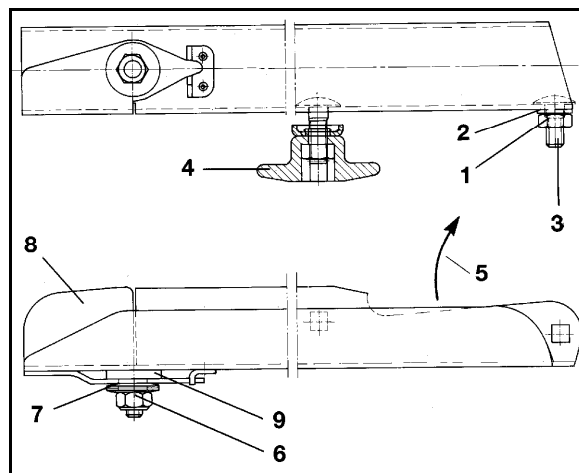

Fig. 81
It is essential to ensure that the spreading vanes are installed correctly! The open side of the U-shaped spreading vane must be facing the direction of rotation (Fig. 81/5).
1. Release and remove the fixing bolt (Fig. 81/3).
2. Release and remove the quick-release screw connection (Fig. 81/4).
4. Replace the used self-locking nuts (Fig. 81/1) of the fixing bolts with new ones.
5. Secure each spreading vane with a fixing bolt, washer and an unused self-locking nut (Fig. 81/1) so that they can move on the spreading disc.
6. Tighten the self-locking nut (Fig. 81/1) with a tool to the extent that you can still just swivel the spreading vane by hand.
7. Fit the quick-release screw connections (Fig. 81/4), consisting in each case of a round-head screw, disc spring and wing nut. Make absolutely sure that the open side of the disc spring faces the spreading disc.
9. Firmly tighten the respective wing nut of the quick-release screw connection (Fig. 81/4) by hand (without using a tool).